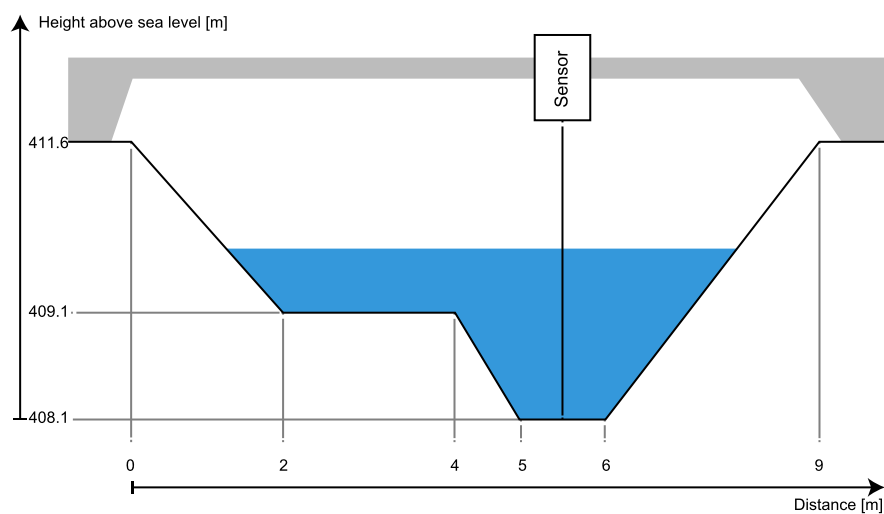

Figure 13 Cross-Sectional profile with absolute heights
- absolute height above sea level, see Figure 13